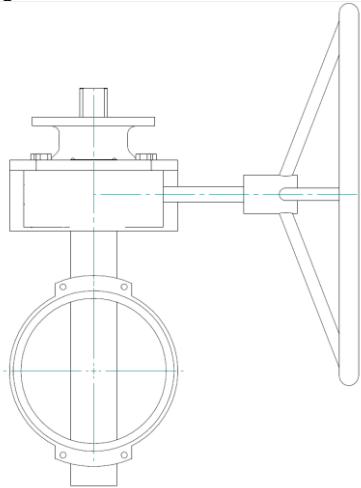

Figure 7: Gearbox perpendicular to the valve
9. The gearbox is mounted perpendicular to the valve (see figure 7).